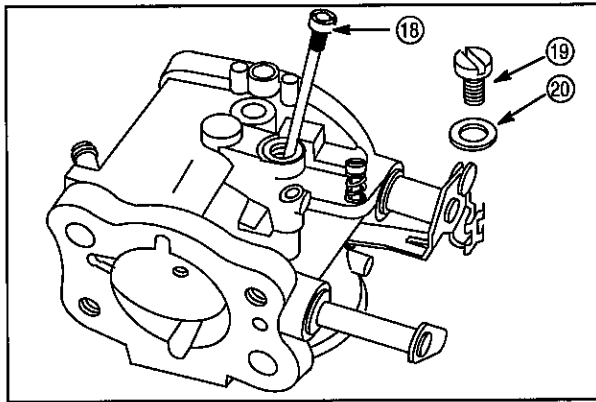

Fig. 38
18. Install idle jet (18), plug (19) and gasket (20), Fig. 38.